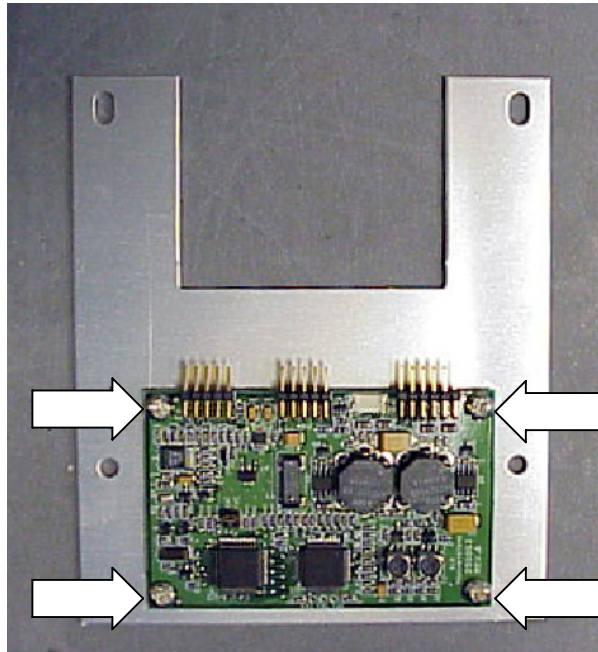

Figure 9: Installing the Touch Panel Controller board to the bracket
- b. Secure the Touch Panel Controller board to the bracket (Tektronix part number 407-5001-xx), using the four screws (Tektronix part number 211-0503-xx). See Figure 9.